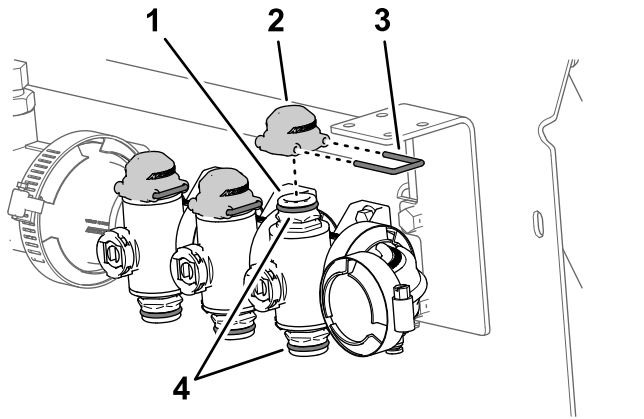

Figure 50
5. Lubricate the upper and lower O-rings on the quick coupler of the manifold valve with the grease provided with the quick-coupler cap (Figure 50).
6. Assemble the 3 caps for the quick couplers onto the 3 quick couplers for the manifold valves (Figure 50).
7. Secure the 3 caps to the 3 quick couplers with the 3 retainers (Figure 50).